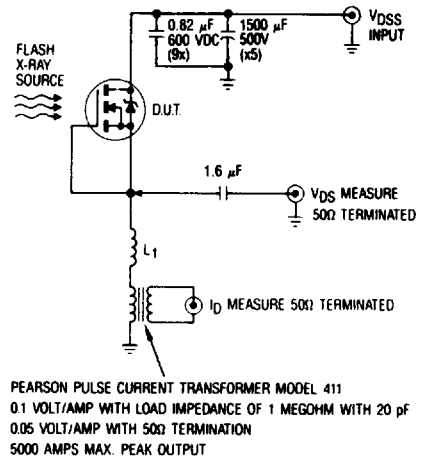

Fig. 9 — High Dose Rate (Gamma Dot) Test Circuit
High dose rate testing may be done on a special request basis, using a dose rate up to 1x10¹² Rads (Si)/Sec. Photocurrent and transient voltage waveforms are shown in Figure 7, and the recommended test circuit to be used is shown in figure 9.
⑨ This test is performed using a flash x-ray source operated in the e-beam mode (energy ~2.5 Mev), 30 nsec pulse. See figure 9.
⑩ Study sponsored by NASA. Evaluation performed at Brookhaven National Labs.
⑪ All Pre-Radiation and Post-Radiation test conditions are identical to facilitate direct comparison for circuit applications.